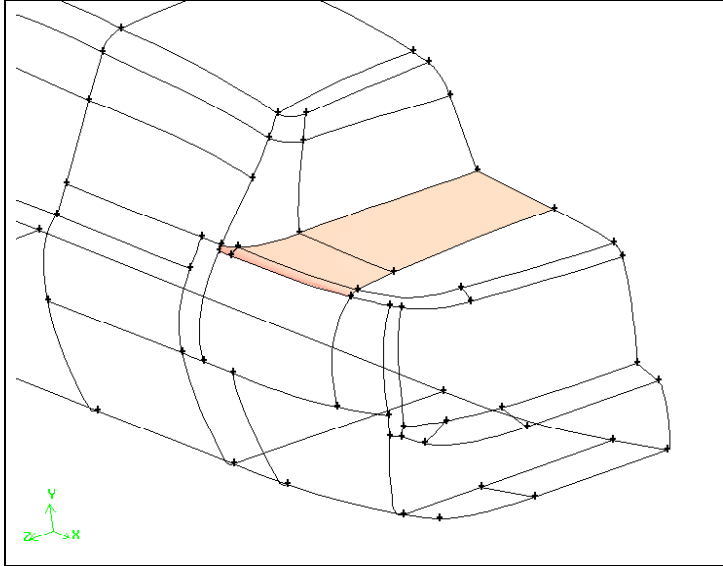
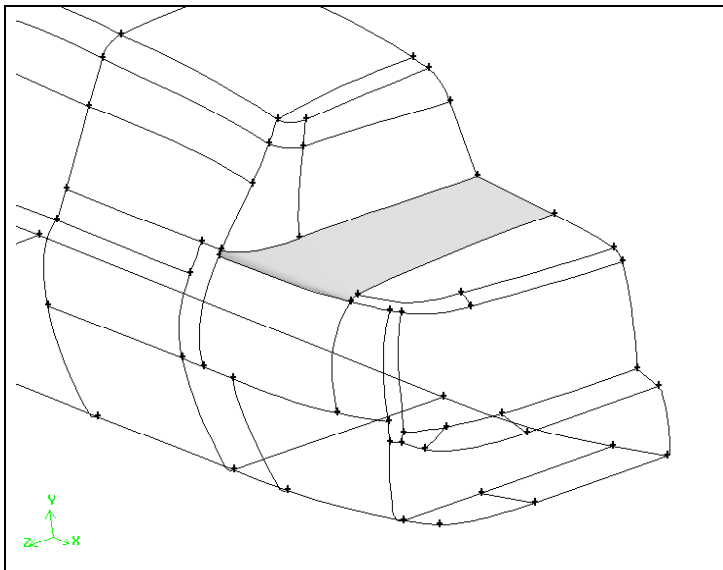

Figure 6-7: Four faces on trunk of sedan
Figure 6-8: Four faces merged on trunk of sedan
2. Merge four faces on the trunk of the car (see Figure 6-7) using the method outlined above. The merged faces are shown in Figure 6-8.